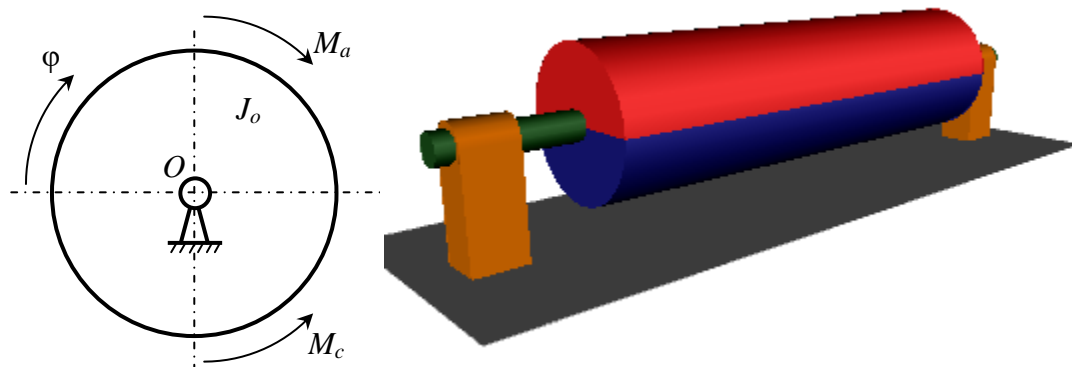

Figure 3.10. Scheme of the model (left) and the mechanical part (right)
13. Finally in the **APPS** gallery select the **Simulink Coder** and the click the **Generate code and build model** button, see Figure 3.10.